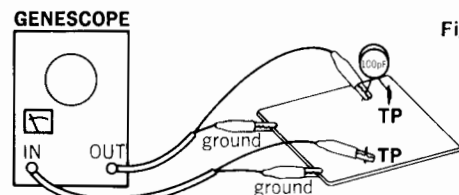

Fig. 3-1
(1) FM IF, RF Adjustment and Dial Calibration (See Fig. 3-1 on Page 4 & Fig. 3-3 on Page 8)
(2) FM STEREO Adjustment (See Fig. 3-1 on Page 4 & Fig. 3-3 on Page 8)
(1) FM IF, RF Adjustment and Dial Calibration (See Fig. 3-1 on Page 4 & Fig. 3-4 on Page 8)
(2) FM STEREO Adjustment (See Fig. 3-1 on Page 4 Fig. 3-4 on Page 8)